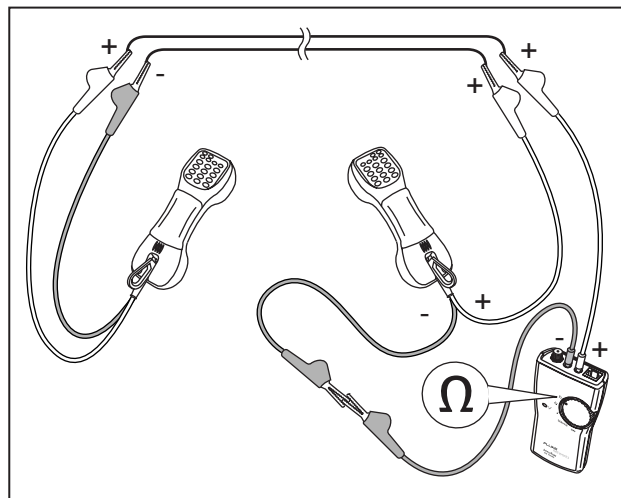

Figure 4. Powering a Telephone Test Set
2. Connect the toner to the voice circuit as shown in Figure 4.